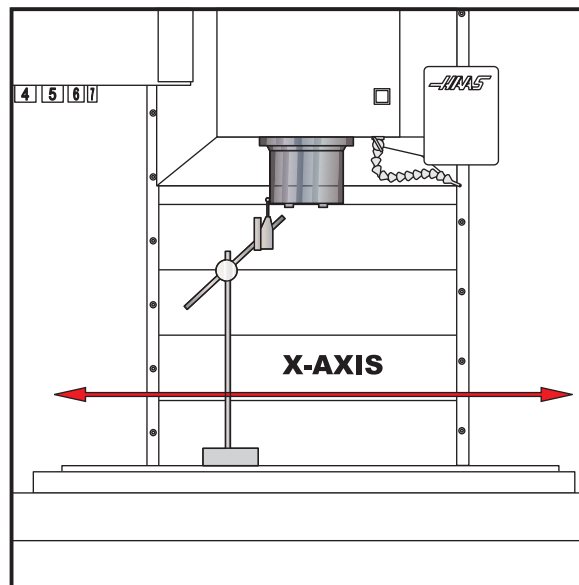

Figure 1-1. Dial indicator in position to check X-axis.
1. Set up a dial indicator and base on the mill table as shown in Fig. 1-1.
An alternate method for checking backlash is to place the dial indicator as shown in Fig. 1-1 and manually push on the mill table in both directions. The dial indicator should return to zero after releasing the table.